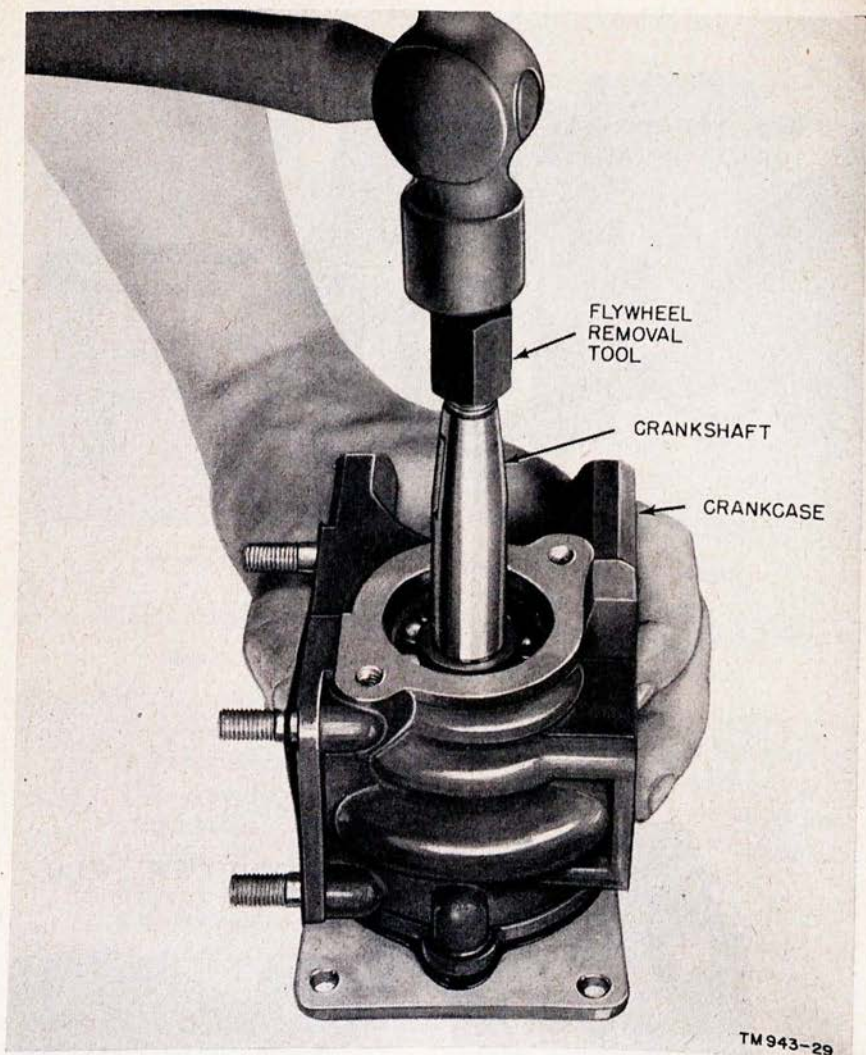

Figure 29. Removing crankshaft from crankcase adapter.
- (1) Remove the three screws and lockwashers that attach the crankcase adapter to the crankcase.
- (2) Screw the flywheel removal tool over the end of the crankshaft and drive the shaft-end bearing and adapter out of the crankcase (fig. 29).
- (3) The main bearings are pressed on the crankshaft and should be removed only if they are worn. (Always replace main bearing when crankshaft requires replacement). To replace a worn bearing, place the crankshaft in an arbor press, with the bearing properly supported, and press off the bearing.